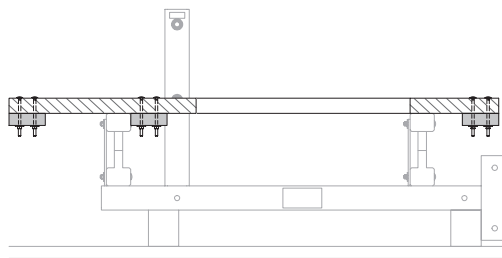

Fig. B5.08
- If necessary, also attach the planking at the descent hatch to three trimmers. (Fig. B5.08)